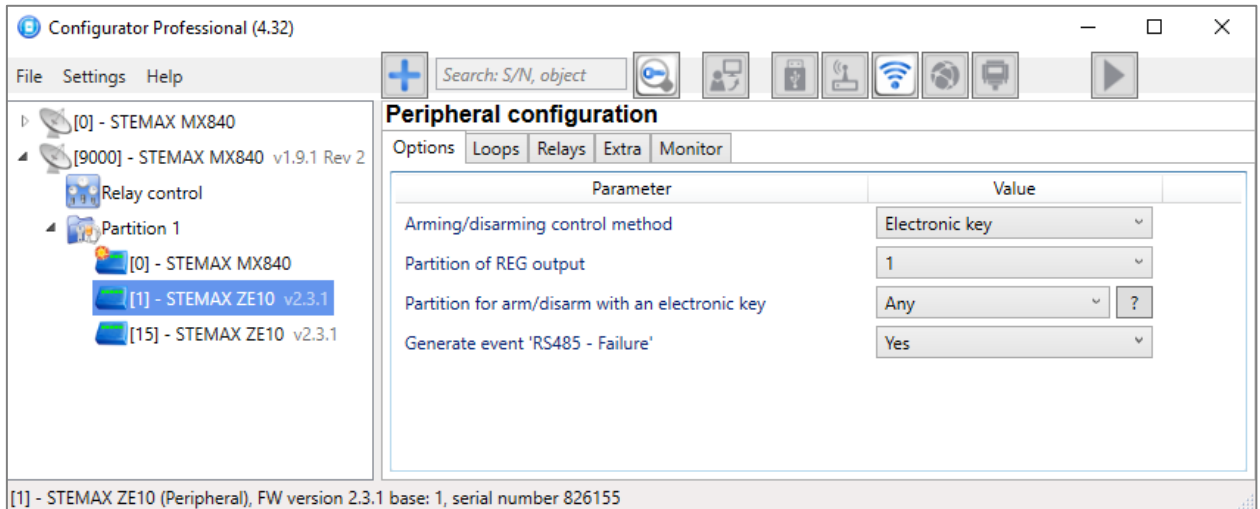

Figure 4.3. Expander configuration, *Options* tab
To proceed to the expander configuration, select its line in the device tree by left-clicking on it. *Options*, *Loops*, *Relays*, *Extra*, *Monitor* tabs open in the parameter area of the *STEMAX Configurator* (see figure 4.3).
Options tab (see figure 4.3) is used for setting the following parameters:
- *Electronic key*: if a control device (including TM readers) manufactured by other manufacturers is connected to the expander (see figure 4.3).